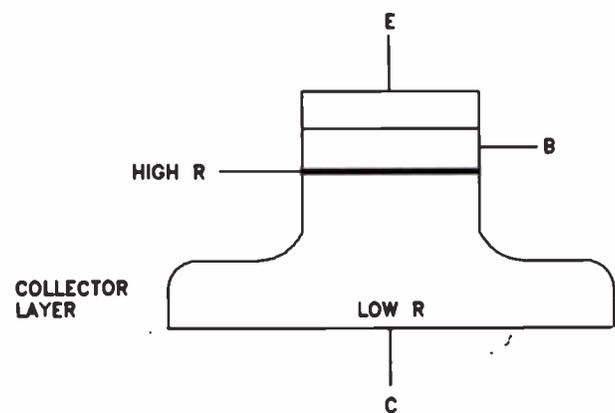

Figure 12. A double-diffused epitaxial transistor.
**Epitaxial Transistors.** One disadvantage of the diffusion-type transistor is the relatively high resistance of the collector. This limits its usefulness at high frequencies. If we reduce the resistance of the collector, we introduce the possibility of a collector-base or a collector-emitter short, which destroys the transistor. Both these problems can be overcome with an epitaxial transistor, shown in Fig.12. In this type of transistor, the collector region immediately adjacent to the base-collector junction is doped to have a high resistance. The remainder of the collector is doped to have a low resistance. This technique improves the high-frequency performance of the transistor and at the same time reduces the possibility of a collector short.